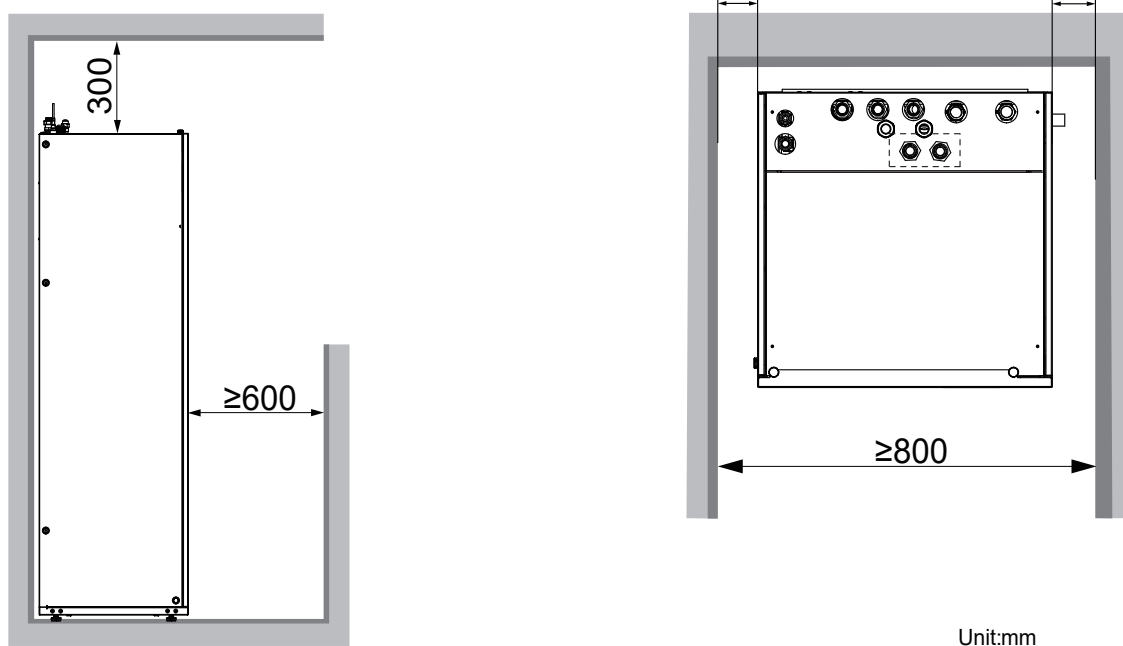

Fig.4-2
- The space around the unit is adequate for servicing (Refer to Fig.4-2).